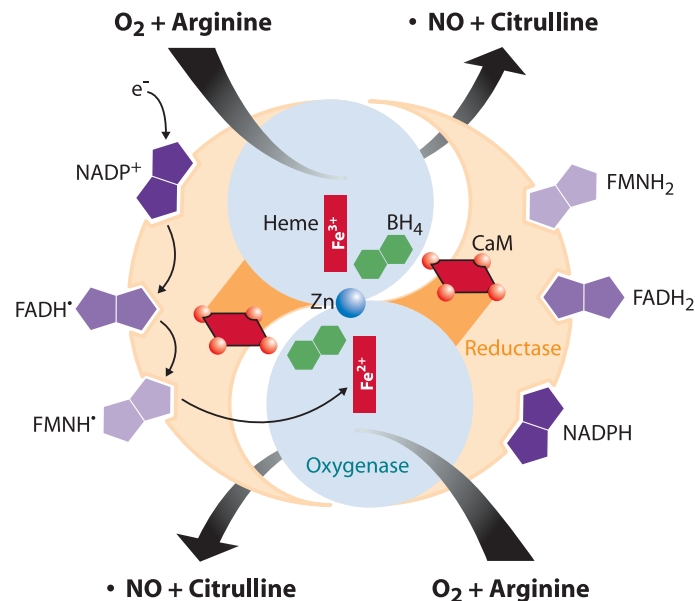

Figure 1. Nitric oxide synthesis
Nitric Oxide (NO) is synthesized in biological systems by the enzyme Nitric Oxide Synthase (NOS). NOS is a remarkably complex enzyme which acts on molecular oxygen, arginine, and NADPH to produce NO, citrulline, and NADP⁺. This process requires five additional cofactors (FMN, FAD, Heme, calmodulin, and tetrahydrobiopterin) and two divalent cations (calcium and heme iron; see Figure 1). Three distinct isoforms of NOS have been identified, as detailed in Figure 2 on page 6.